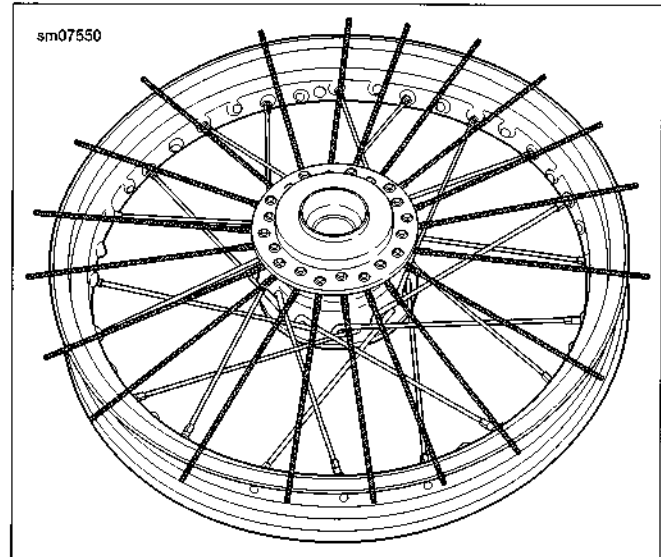

Figure 2-39. Fanning Top Flange Spokes
12. Beginning with 3rd hole counterclockwise (2) from valve stem hole, install lower flange inner spokes (long head) in every 4th hole. Loosely install spoke nipples. Each inner spoke will cross four outer spokes.
13. See Figure 2-39. Carefully release each top bundle and fan the spokes around the rim edge.